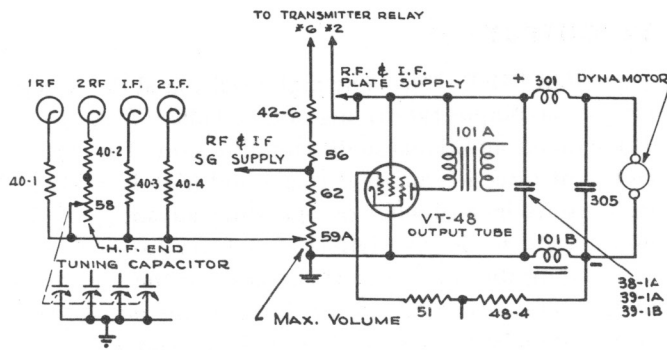

Figure 11 — Load Compensator and Bleeder Circuit Details
a. DESCRIPTION.—The high-level signal diode supplies audio output for driving output Tube VT-48 (JAN-41) without additional audio amplification. The design choice of three i-f amplifier stages and high level detection results in a number of operating advantages. The high level detection is relatively free from distortion due to avoiding the characteristic curvature at the lower end of the diode curve. The direct drive of the output tube from the diode detector simplifies the dynamotor ripple filtering and eliminates possible microphonics resulting from high audio amplification. The high diode level further provides relatively high bias voltage insuring an unusually flat automatic volume control characteristic with the desired time delay. The dual volume control comprises potentiometers 59-A and 59-B. Potentiometer 59-B functions only with switch 107 in the AVC position and, in this position, it permits the desired adjustment of the audio level to the output tube and load. For manual volume control with switch 107 in the MVC position, potentiometer 59-A becomes the active control operating on the cathode bias of the r-f and the 1st and 2nd i-f amplifier tubes. These potentiometers have two linear resistance tapers providing a smooth variation of sensitivity. Automatic load compensation is obtained by the method of biasing the output tube. Here, the grid bias is obtained from the resistance drop across the dynamotor filter reactor, thus, any tendency towards a decreasing load on the dynamotor results in a slight decrease in the bias of the output tube with a compensating increase in the load current. (See fig. 11.) Tube VT-48 (JAN-41) provides a considerable margin of power capability above that necessary to operate a number of headsets in parallel.
a band has been reduced in this design by means of variable resistor 58. The function of this potentiometer can be more clearly understood by reference to figure 11. Here, the noise compensator potentiometer 58 is mechanically connected to the shaft of the ganged tuning capacitor with the electrical connections such as to give minimum resistance at the low-frequency end of the band. The cathode return lead of the second r-f amplifier tube connects to the noise compensator potentiometer 58 and hence the gain of this stage is decreased proportionately as the tuned r-f circuit impedance increases when tuning toward the higher frequency end of each band. This arrangement tends to maintain the noise level and receiver sensitivity essentially constant over the tuning ranges.